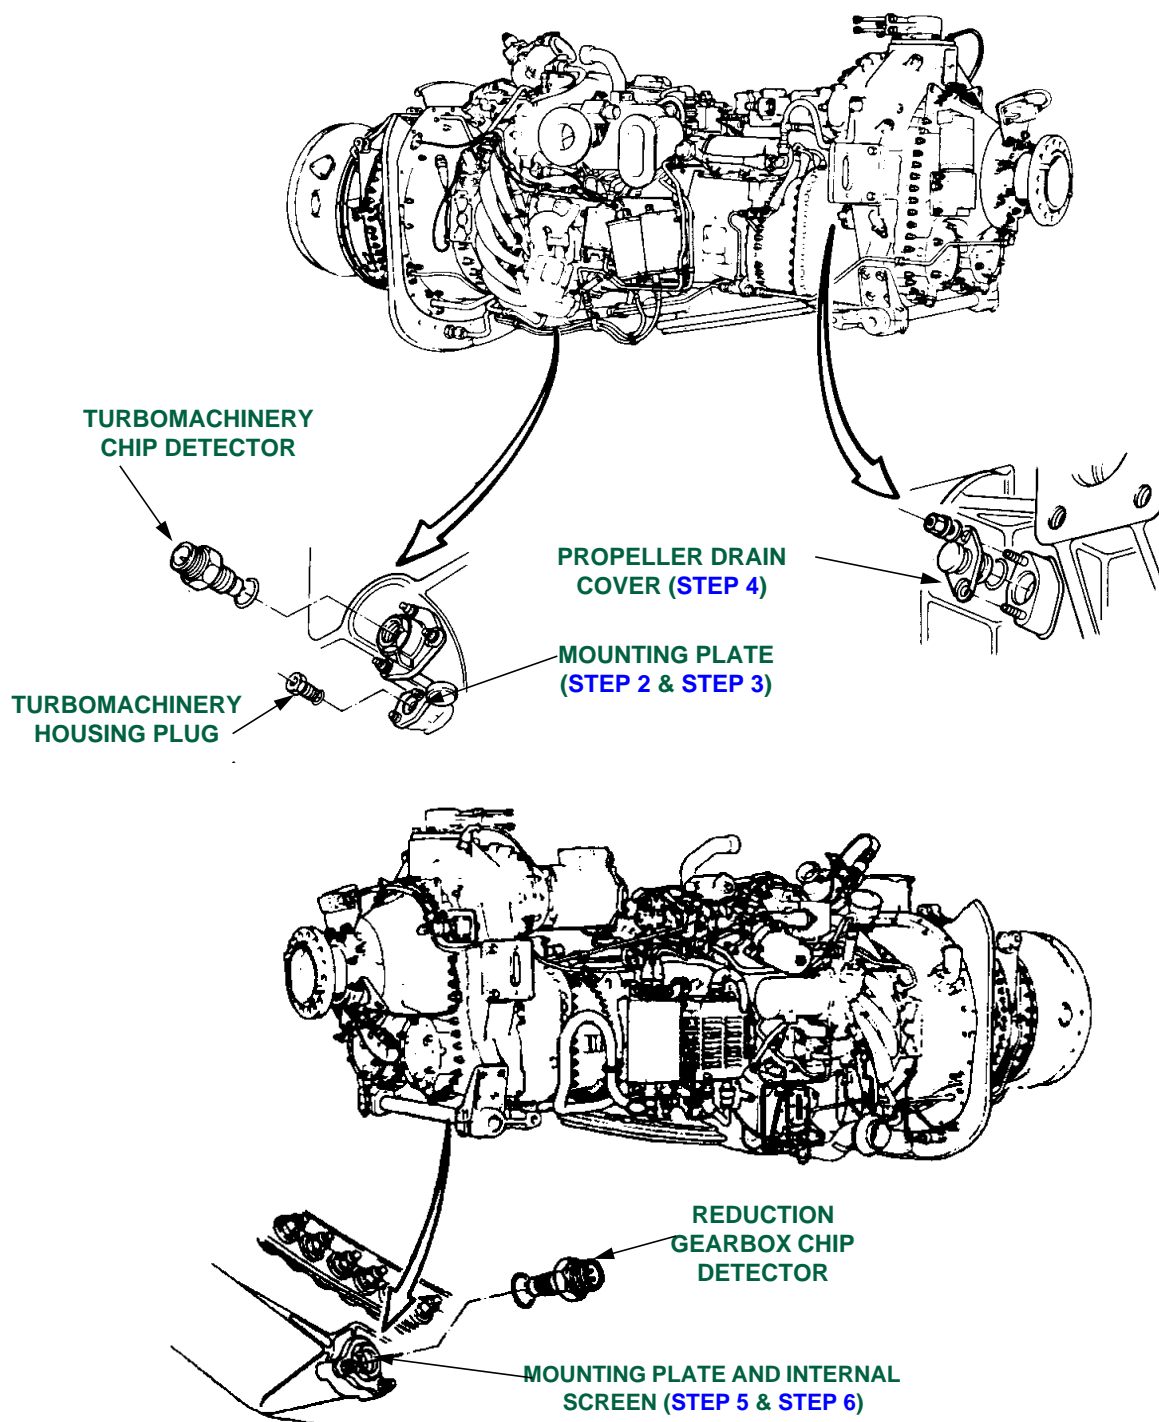

FIGURE 6 - OIL DRAINING PW123 ENGINES
5.4.2 Inhibit the PW123 engine oil system as follows (see Figure 6):